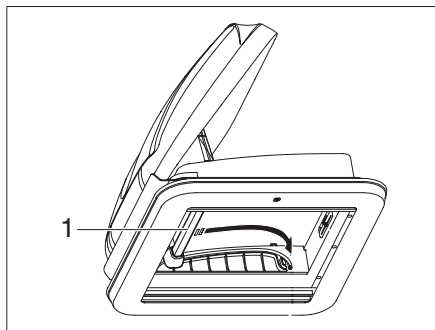

Fig. 50 Close the dome
- Slide the push rod (Fig. 50,1) along the track to the end. When a clicking sound is heard, the push rod is locked.